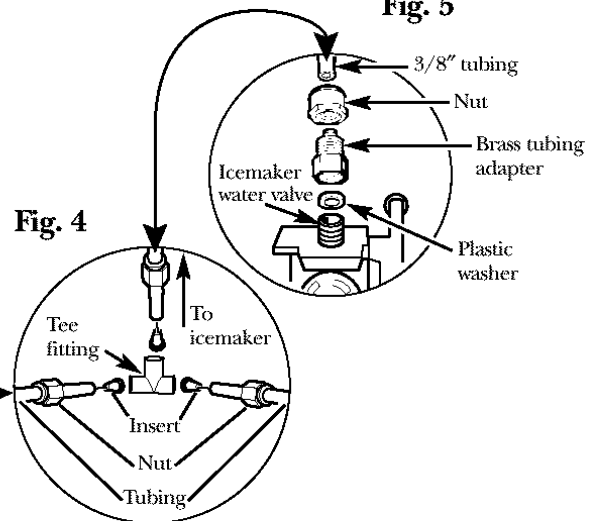

Fig. 5
3. Connect the brass tubing adapter to the free end of the 33-foot length of blue tubing. Shorten tubing to desired length. Attach the other end of the adapter to the icemaker water valve. Be sure to install the plastic washer into the tubing adapter as shown in Fig. 5.